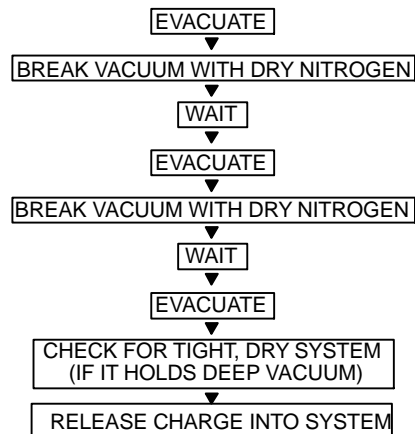

Fig. 16 – Triple Evacuation Method
The triple evacuation method should only be used when vacuum pump is only capable of pumping down to 28 in. of mercury vacuum and system does not contain any liquid water. Refer to Fig. 16 and proceed as follows:
5. Repeat this procedure as indicated in Fig. 16. System will then be free of any contaminants and water vapor.